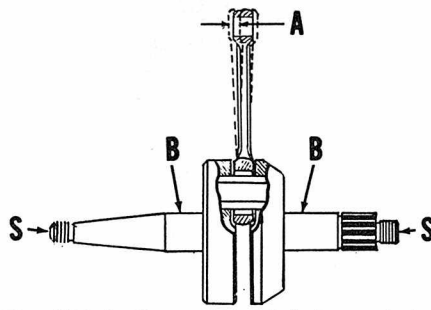

Fig. Y12-6—Support crankshaft on lathe centers at point (S) and use dial indicators at point (B) to measure crankshaft runout.
0.0012 inch. Small end rod shake (A—Fig. Y12-6) should be no more than 0.078 inch.